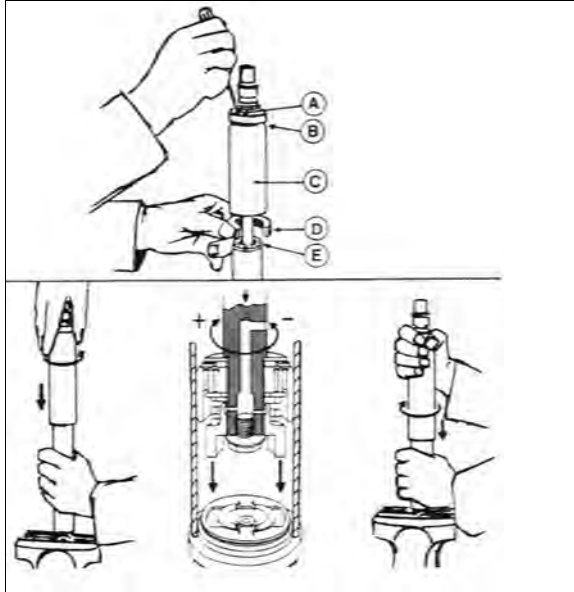

FIGURE 54: DAMPER
To adjust opening and closing cycle speed on damper (Figure 54):
2. Fully close the damper while turning the dust cap or piston rod slowly CCW until it is felt that the cams of the adjusting nut engage in the recesses of the foot valve assembly (Figure 54).
*In Figure 54, if there is an indentation (B) in the dust cap (C) and the cover shows two holes (A), the damper is fitted with a bump rubber (D). If so, fully extend the damper and insert a round bar or screwdriver through the holes. Push the bump rubber down and remove. Remove the split plastic collar (E) (if fitted) from the piston rod.*
Where a bump rubber was installed, refit same inside the dust cap and by fully closing the damper, the rubber will seat again at top of the dust cap. Refit the split plastic collar E (Figure 54).